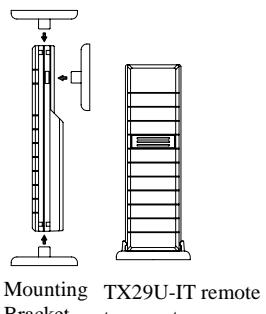

Figure 2
2. TX29U-IT—remote temperature sensor (figure 2)